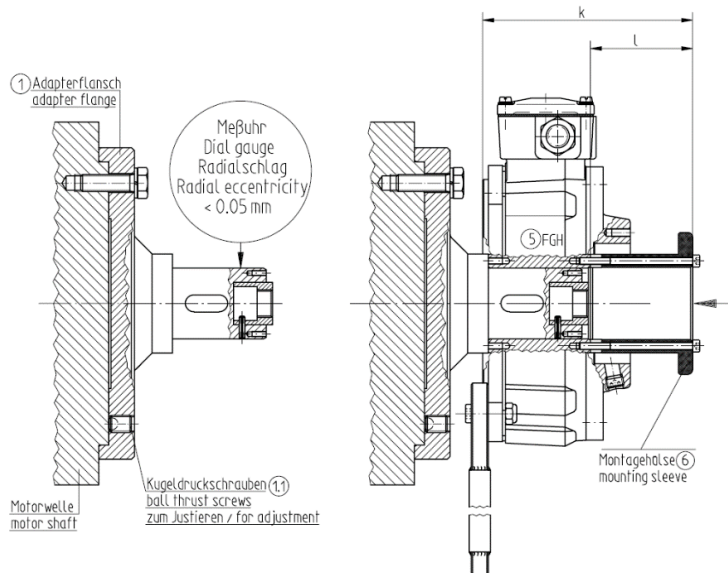

Figure 1
Mount the adapter flange (1) and align precisely with dial gauge. Figure 1 page 13.
- 1 The hollow shaft of the hollow shaft encoder has threaded holes on both ends. If simple mounting of the hollow shaft encoder (5) is not possible, we recommend using the mounting sleeve. Fasten the mounting sleeve (Figure 1 page 13) (accessory ID-10595) there with 4 screws M5x80. The mounting sleeve can now be used to apply pressure to the encoder shaft until the hollow shaft encoder is seated against the stop of the shaft collar.